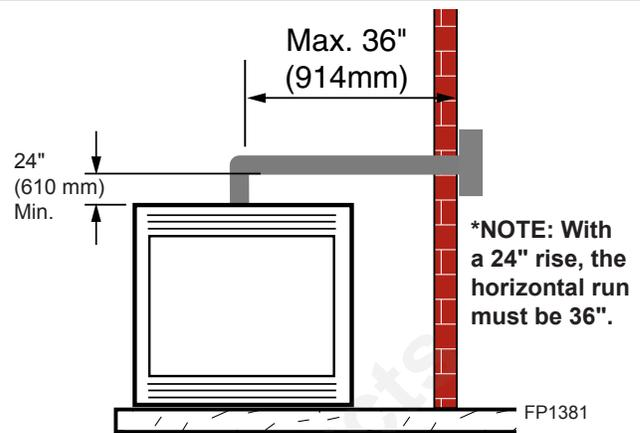

Figure 14 -
- A minimum of 24" is required before a 90° elbow. If a 90° elbow is fitted directly after 24" vertical section mounted to the top of the fireplace, the horizontal vent run before the termination must be 36" (914 mm). *Figure 14*